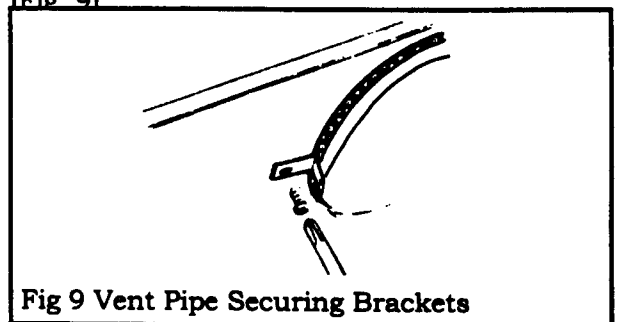

Fig 9 Vent Pipe Securing Brackets
6.6 Fit the two vent pipe securing brackets to the appliance back. Fix through the long slotted leg of each bracket with #6 thread-cutting screws (Fig. 9)